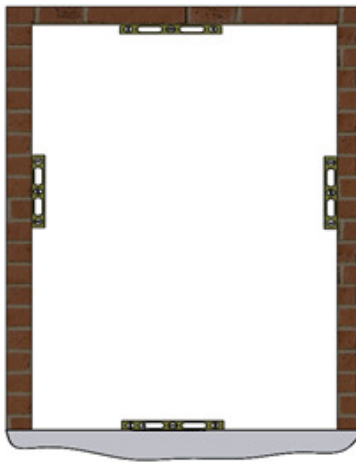

Figure 4:
2. Verify the opening is plumb, square, and level (Figure 4).